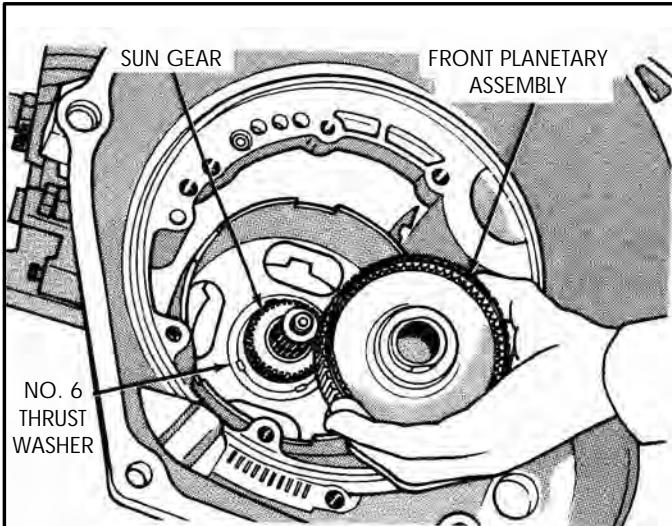

Figure 226
9. Install the front planetary assembly into case, as shown in Figure 226, ensuring engagement with the sun gear.